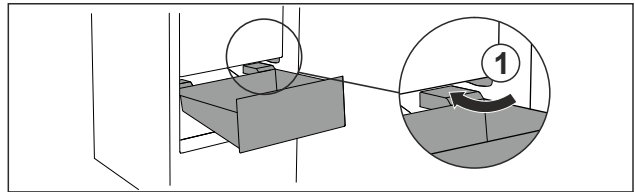

Fig. 78
- ▶ Guide drawer in at an angle around the stoppers Fig. 78 (1).